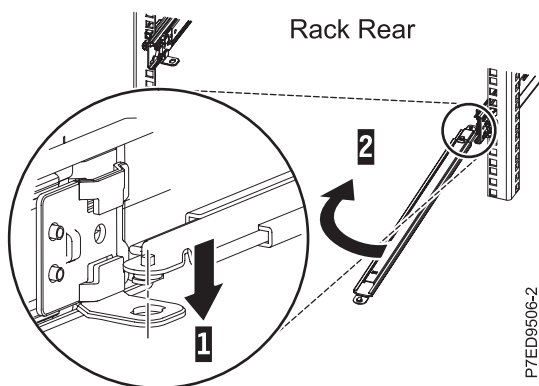

Figure 12. Connecting the support arm
1. The cable-management arm must be installed on the right side of the server, when you are facing it from the rear. The following figure shows it being installed on the right side. Connect one end of the support arm (A) to the right slide rail (1) so that you can swing the other end of the support arm (2) toward the left side of the rack, as shown in Figure 12.